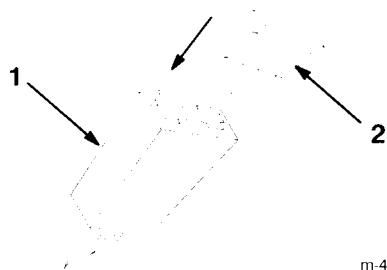

Figure 6
2. Install the fuse in the fuse holder as shown in Figure 6.